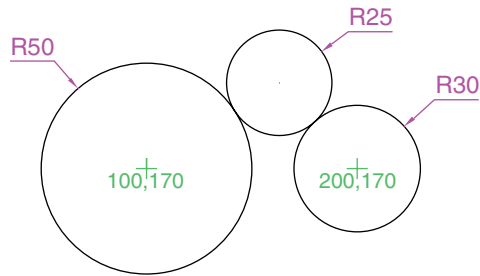

Fig. 2.31 Exercise 4
- Using the **Circle** tool, construct the two circles of radius 50 and 30. Then, using the **Ttr** prompt, add the circle of radius 25 (Fig. 2.31).